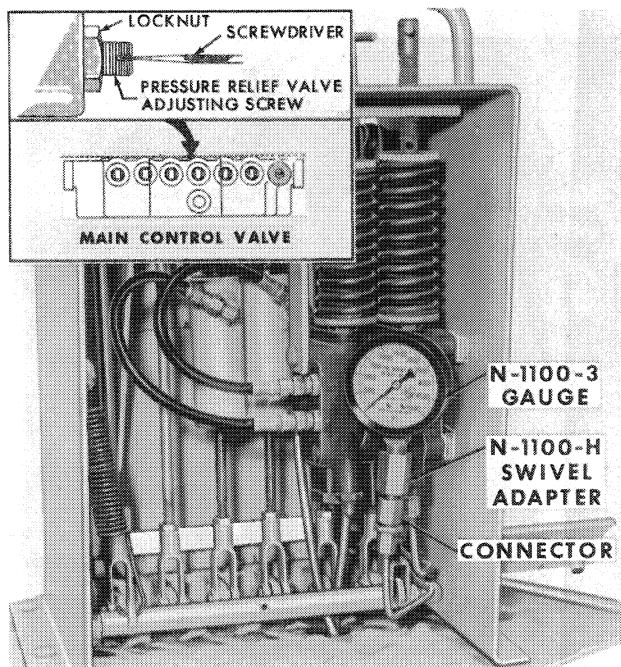

Figure 10
1. Disconnect the crowd sensing tube from the auto-sequencing valve and connect the N-1100-3 gauge as shown in Figure 10. A swivel connector is used between the crowd sensing tube and the "H" fitting.
7. If the pressure is not to specification, remove the pressure relief valve acorn nut, and loosen the lock nut on the adjusting screw on the main control valve. See Insert, Figure 10.